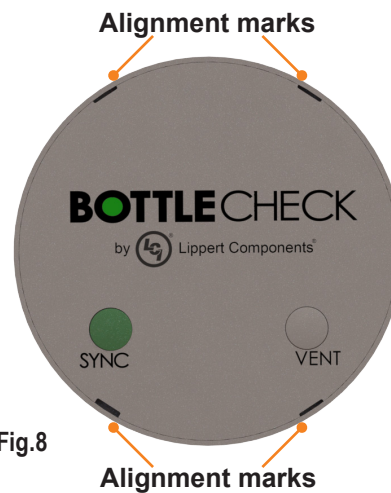

Fig.8
2. Insert a small flat head screwdriver into one of the alignment marks between the lid and the base (Fig.8).